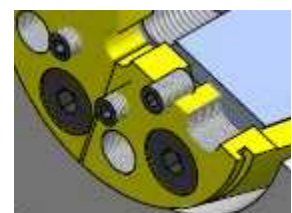

Fig. 5
- 3.1 Unscrew all "pin screws (26c) as shown in Fig.5, and tighten the inner cone screws (26b) for expanding the inner cones (27). Tighten alternately on both sides to avoid the Bondura bolt moving sideways. Tighten until specified torque (see table 1).